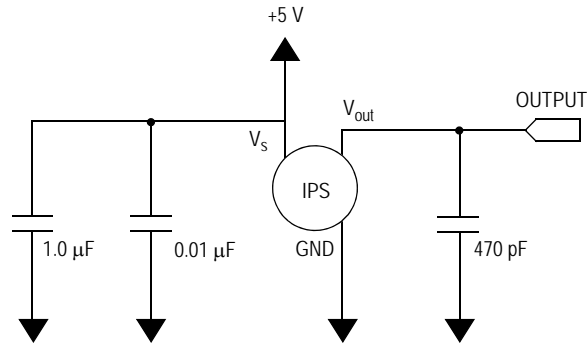

Figure 3. Recommended Power Supply Decoupling and Output Filtering
**Table 2. Operating Characteristics** (VS = 5.0 Vdc, TA = 25°C unless otherwise noted, P1 > P2. Decoupling circuit shown in Figure 3 required to meet electrical specifications.)
curves are shown for operation over a temperature range of 0° to 85°C using the decoupling circuit shown in Figure 3. The output will saturate outside of the specified pressure range.
Figure 3 shows the recommended decoupling circuit for interfacing the output of the integrated sensor to the A/D input of a microprocessor or microcontroller. Proper decoupling of the power supply is recommended.